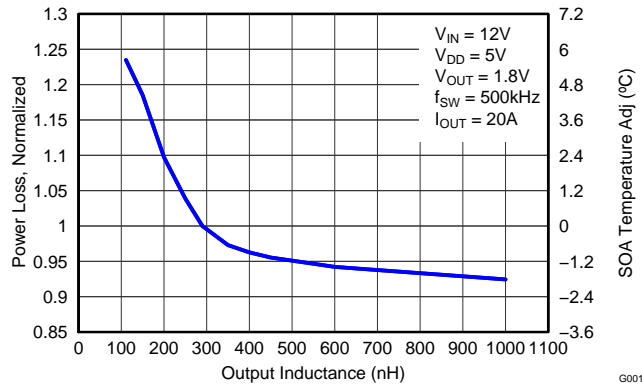

Figure 11. Normalized Power Loss vs Output Inductance
- Normalized Power Loss for output inductor  $\approx$  1.10 (Figure 11)
- SOA adjustment for output inductor  $\approx$  2.3°C (Figure 11)